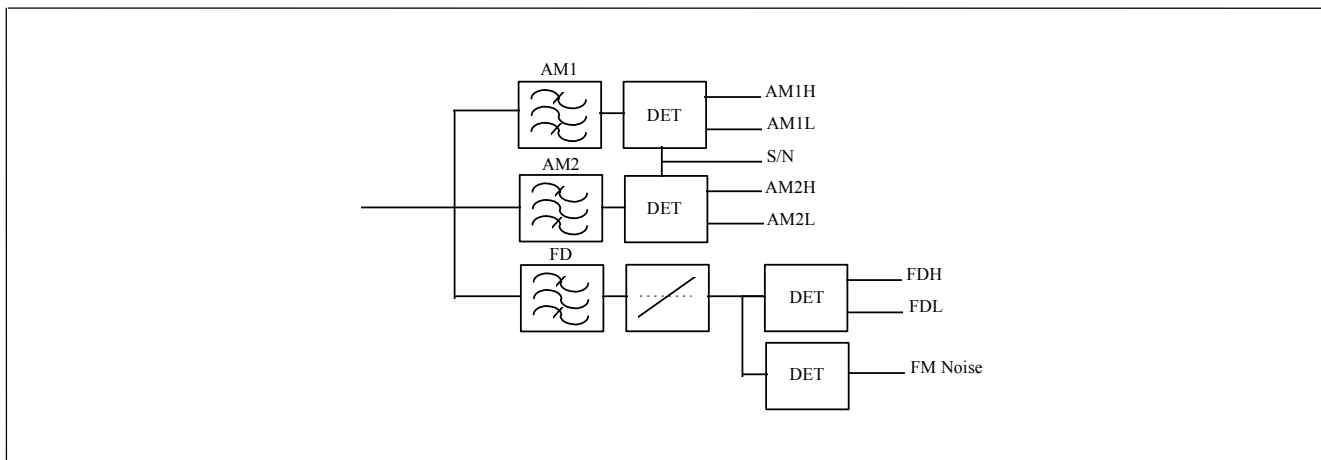

Figure 2-6. Block diagram of basic 9745 receiver
The two noise detection systems use Amplitude Modulated (AM) and Frequency Modulated (FM) information to determine the presence of Noise. A simplified block diagram of the basic 9745 receiver is shown in Figure 2-6. As shown in the figure, the received frequency is fed into three bandpass filters which are labeled AM1, AM 2 and FD. The AM noise filters are only used in the AM noise detection process. The FD filter feeds the Frequency Discriminator whose output is used to determine receipt of high or low frequency and to drive the FM noise detection section.